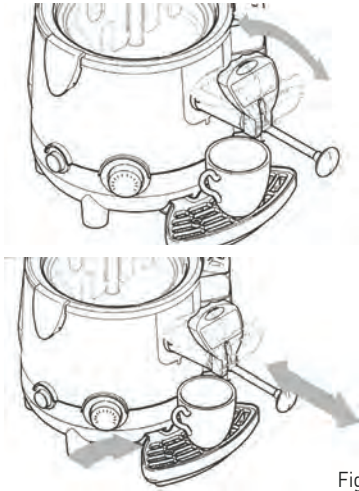

Fig. 1
- If the hot chocolate is passing too low, it is advisable to keep the rod pulled out at the maximum position; any clogging in the dispensing line may be removed by sliding the rod back and forth while keeping the machine, as shown in the Fig.1
**⚠ Caution! Danger of burns! Do not touch the bowl lid (1) and the bowl (2) while the machine is operating since they are very hot. Always use the top knob of the bowl lid (2) for picking up.**